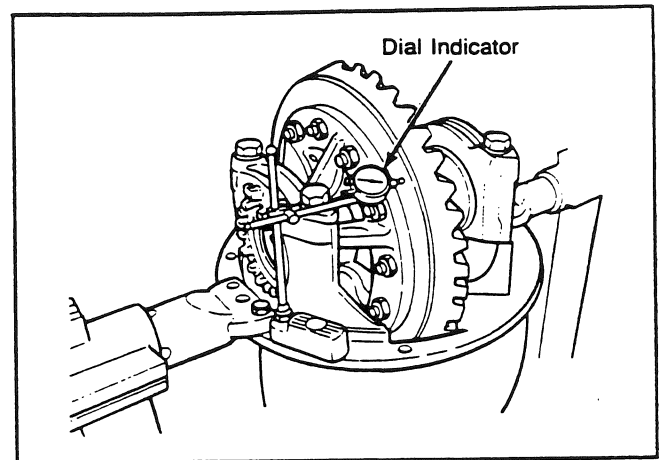

Fig. 65
1. Install a dial indicator on the carrier mounting flange. Adjust the dial indicator plunger against the back surface of the ring gear (see Fig. 65).